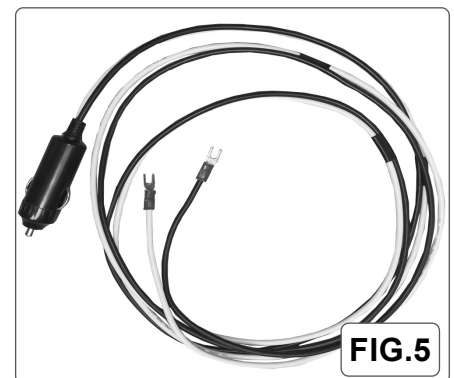

FIG.5
- Note the distinction between + - poles before connecting the wires from the 12V power cord (fig.5).
- **NOTE:** when the gas cylinder is initially installed, repaired or replaced, some air will enter the gas pipe. Press the button and turn the (C) knob counterclockwise to **MAX** and hold it for 15 seconds or more to let the air out of the pipe. Open the valve of the gas cylinder, then press the safety valve switch button (C) for more than 15 seconds until the flame indicator (B) lights up.
- Rotate the energy selection knob (A) to gas mode.
- Press the safety valve and the battery ignition switch button (C) and hold it while turning the knob counterclockwise (C) to the **MAX** position.
- Check the flame indicator (B) to see if the flame is on. After the flame is ignited, the pointer should move from the red area to the green area.
- Press and hold the safety valve and battery ignition switch button (C) for 10-15 seconds.
- Release the safety valve and the battery ignition switch button (C) and check again whether the flame is on or not.